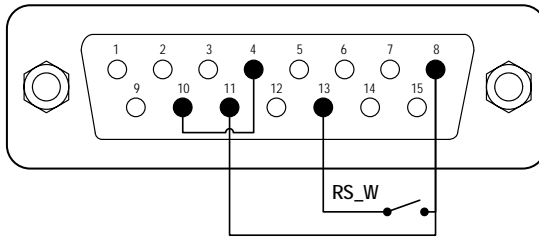
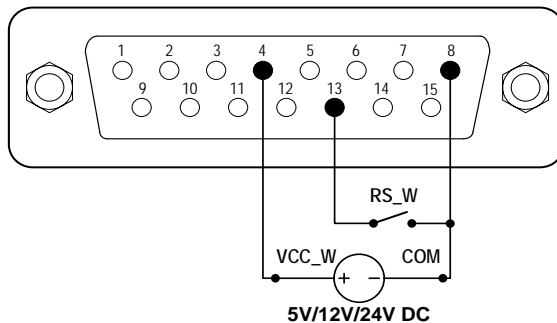

Figure 14. Logic Level 1 Control with Internal 12V Power Source
Figure 15. Logic Level 1 Control with External Power Source
- 1) Turn off the pump. Wire the DB15 connector as shown in Figure 14 or Figure 15, and connect it to the DB15 port on the rear of the pump.